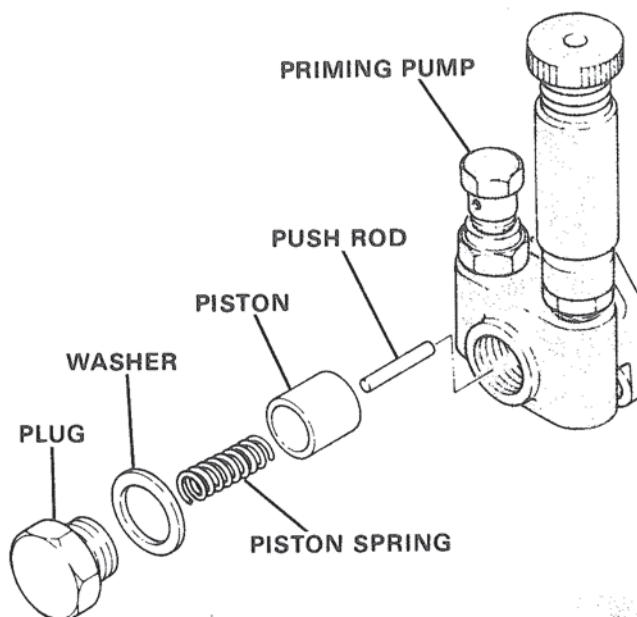

Figure 15. Removing Piston Plug.
- A. Remove plug and washer. Figure 15.